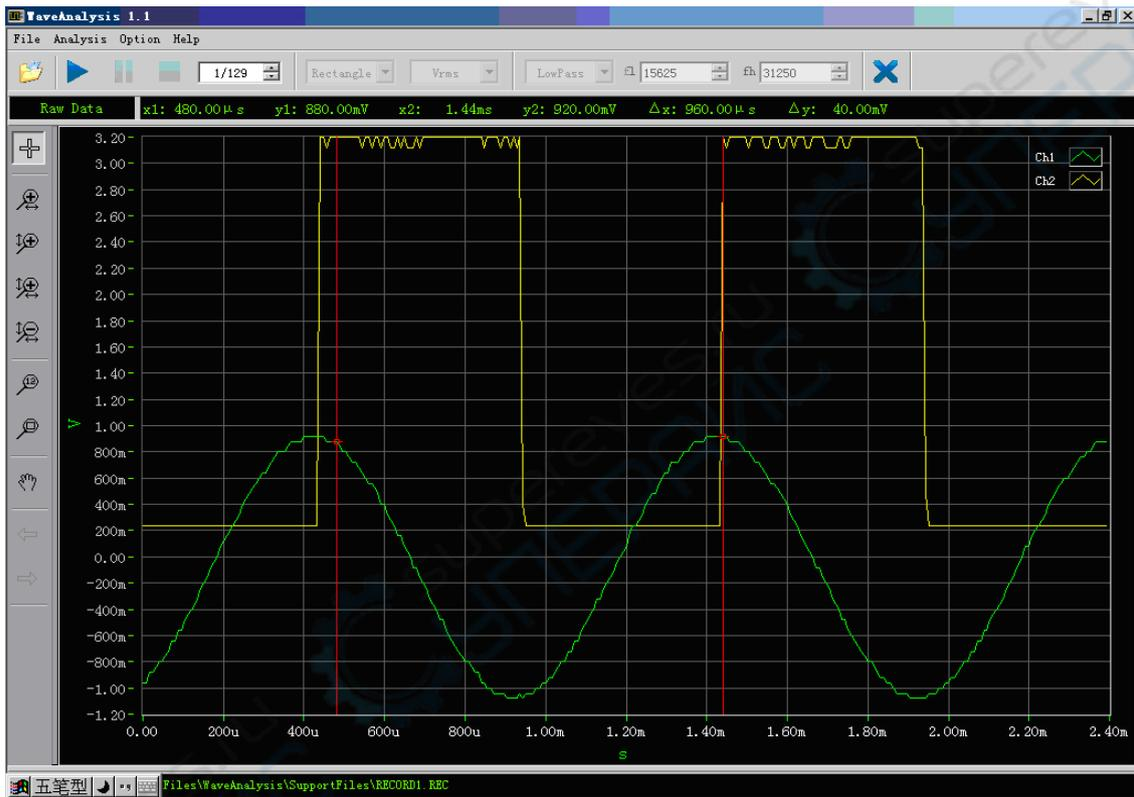

Fig. 3-1 Loading a recorded waveform document
**Loading .REC documents :** As shown in Fig. 3-1, the document being loaded is a recorded waveform file (.REC document). A .REC document is a waveform document recorded by the oscilloscope.